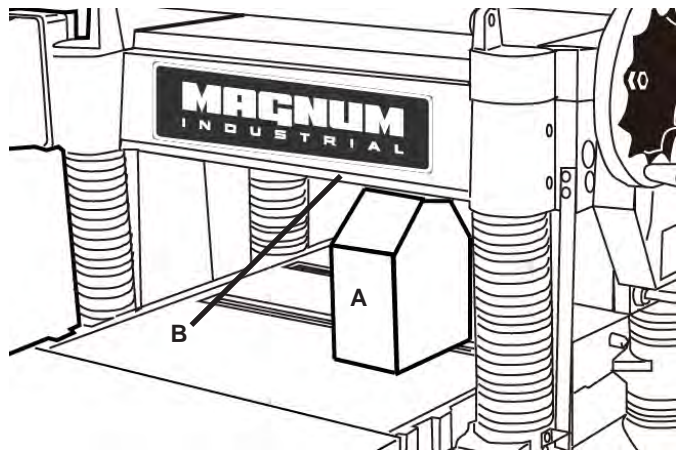

Fig 24
3. Move the gage block (A) to opposite end of the working table, as shown in Fig. 24.